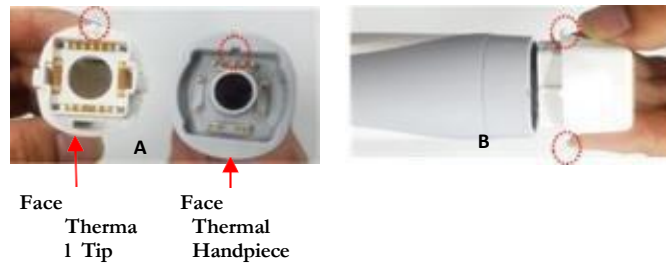

Figure 3.0-12: Face Thermal tip and handpiece connection
1. Align the tip into the handpiece and gently slide the tip onto the handpiece (Figure 3.0-12(A)).
2. To disconnect the Face Thermal tip from the handpiece, press both tabs on either side of the tip (Figure 3.0-12(B)), simultaneously, while gently pulling the tip away from the handpiece